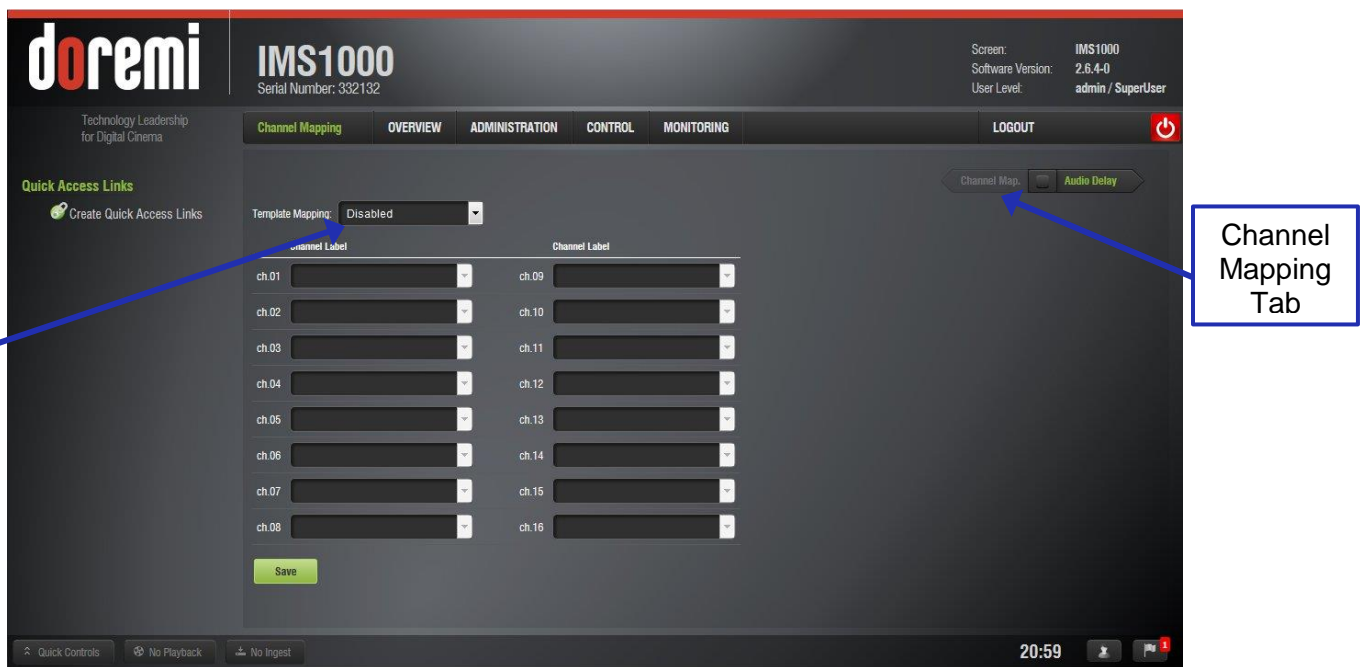

Figure 112: Audio Mapping Window (Disabled) - Default Setting
- To open the Audio Settings application, go to Administration → Control Panel → Audio Settings (Figure 112).
- When first launched, the Audio Settings application opens in the Audio Delay tab. Click on the Channel Mapping arrow to get to the Channel Mapping tab. The Template Mapping will be set to Disabled (Figure 112).